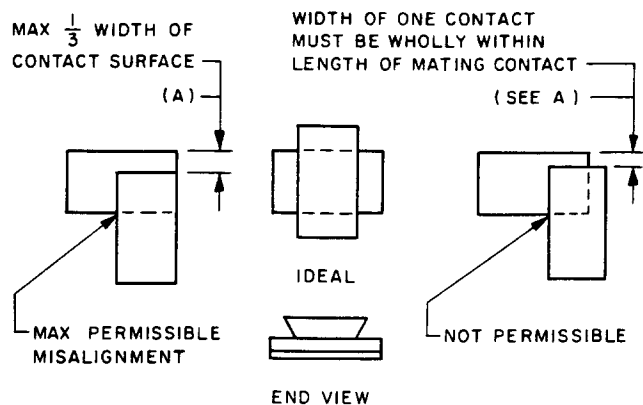

Fig. 6 — Alignment of Contacts
2.15 Contact Alignment: Fig. 6 (A) — The contact alignment shall be within the limits indicated in Fig. 6.